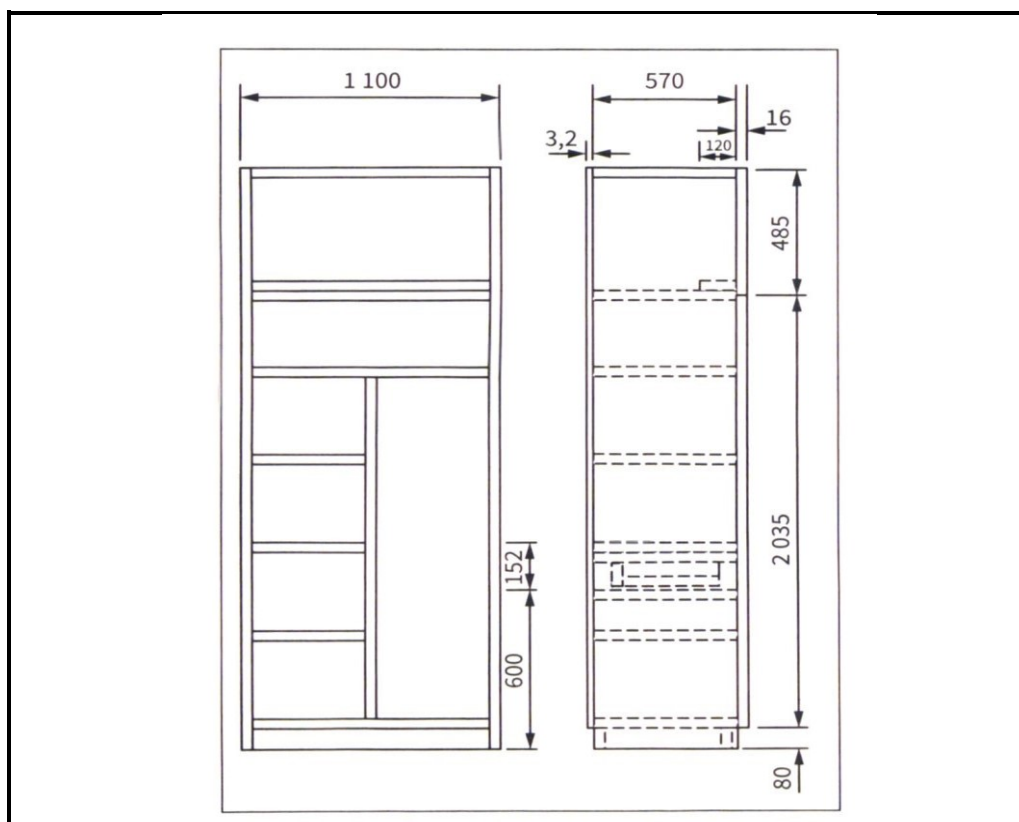

FIGURE 3.3
3.3 FIGURE 3.3 below shows the front and side elevation of a bedroom cupboard without the doors, fitted from the floor to the ceiling. An incomplete cutting list specifying some parts of the cupboard is given. Study the drawing and complete the cutting list by providing answers to QUESTIONS 3.3.1 to 3.3.6.